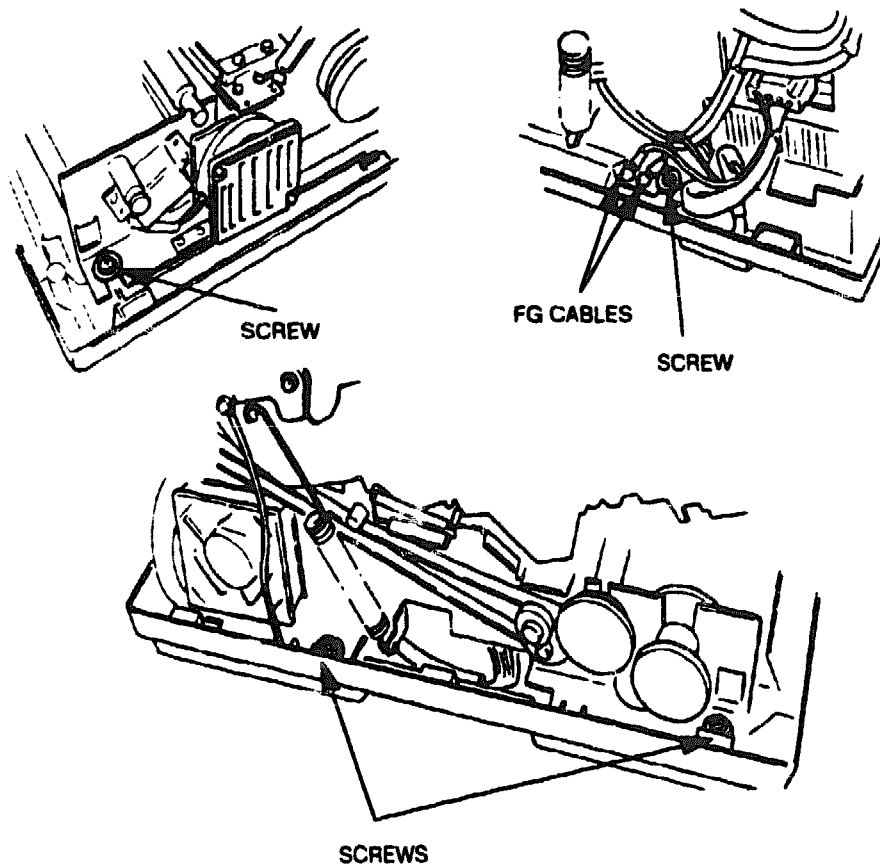

Figure 6-68 FG Cables and Mechanism Unit Screws
5. As shown in Figure 6-68, unscrew the two FG Cables on the rear of the lower side plate.
6. Remove the four screws that secure the mechanism unit to the printer base (see Figure 6-68).